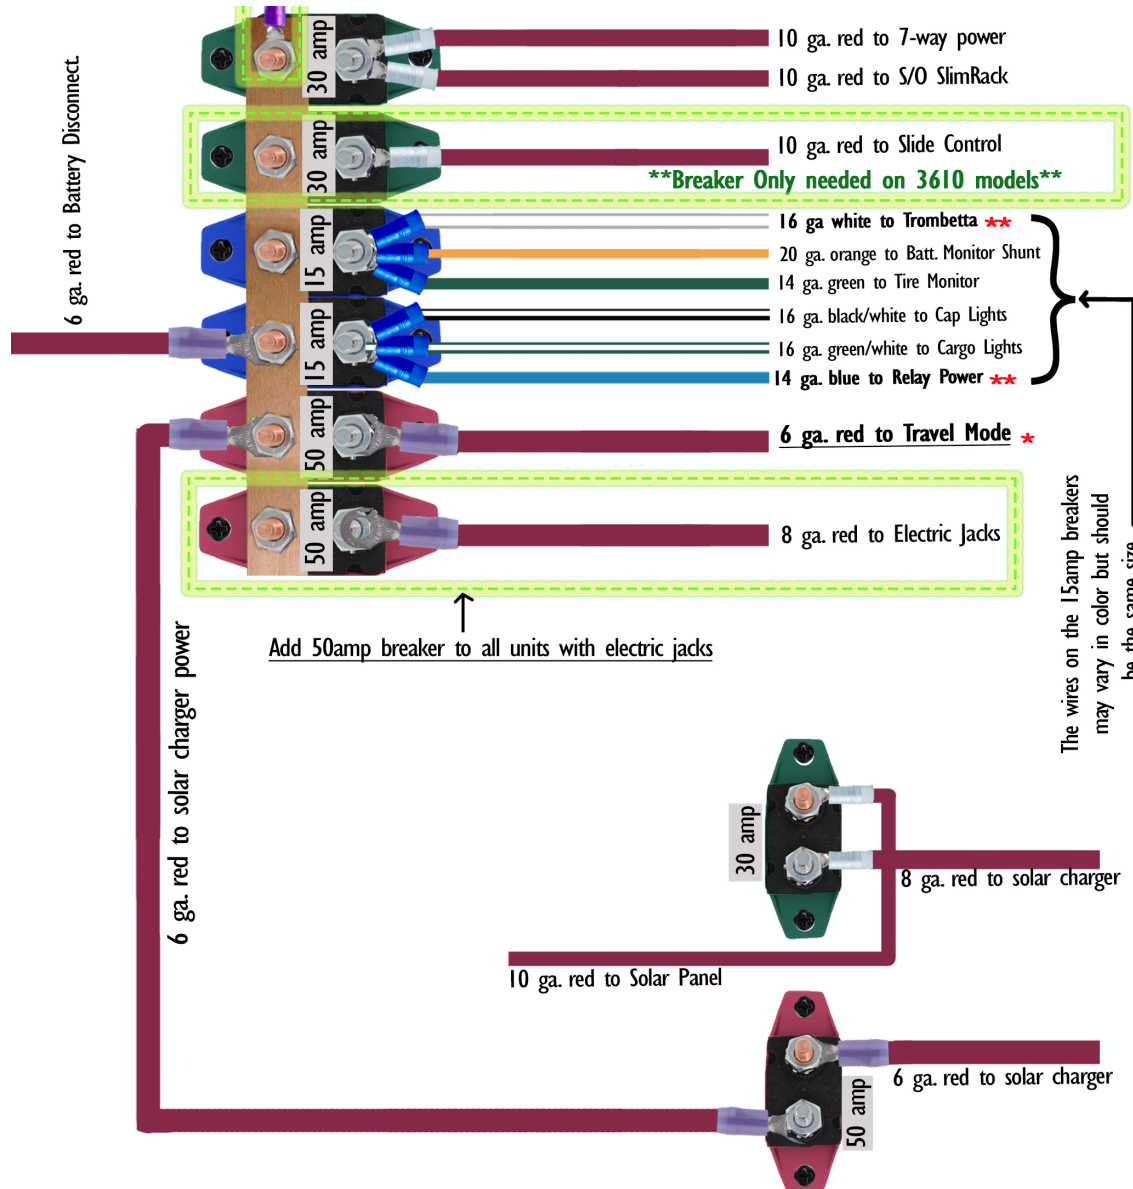

Figure 9b
11. Attach the wire terminals to the mini breakers per the attached print (Figure 9a and Figure 9b):
12. Run 6 GA red jumper assembly from travel disconnect to protected (silver) side of the bottom 50 amp mini breaker (if there are two (2) 50 amp mini breakers, install it on the second from the bottom).
15. Run 6 GA red from Solar Charger to power (copper) side of the upper 50 amp breaker (if two (2) exist).